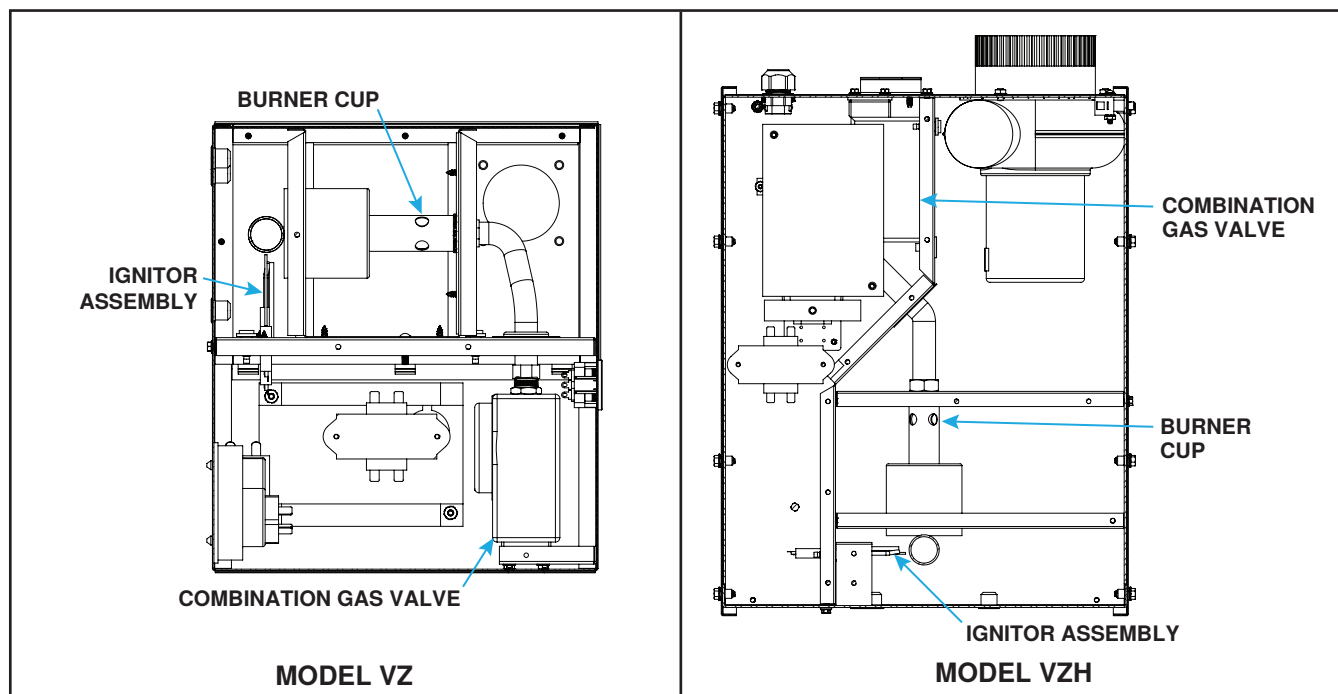

Figure 1. Component Locations
- b. Remove and save screws that secure ignitor assembly (see Figure 1) to inside panel and remove ignitor assembly (remains connected to wiring harness).
- c. Insert screwdriver in holes in burner cup shaft (see Figure 1) and use as leverage to loosen burner cup from gas manifold. Continue to unthread burner cup from gas manifold by hand and move out of way to access burner orifice.